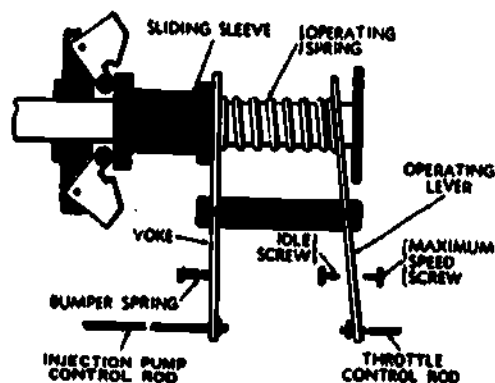

Fig 3-18. Variable speed governor.
b. Variable speed governor (fig 3-18). Consider the simple variable speed governor shown in this figure. The weights turn at engine speed. One end of a sliding sleeve rests against the weights. Linkage to the injector pump fuel control is located at the opposite end of the sleeve so that a sliding movement of the sleeve will change the amount of fuel delivered. The operating spring is positioned so that it tends to push the sliding sleeve to the left, moving the flyweights in. Moving the operating lever, which is connected to the accelerator pedal, will vary the spring pressure. The travel of the operating lever is limited by the idle - and maximum - speed screws. When the operating lever is resting against the idle screw, there is only a small amount of spring pressure pushing the sliding sleeve to the left. Therefore, the weights fly outward, moving the sliding sleeve to the right at very low engine speed. Moving the sleeve to the right positions the injector